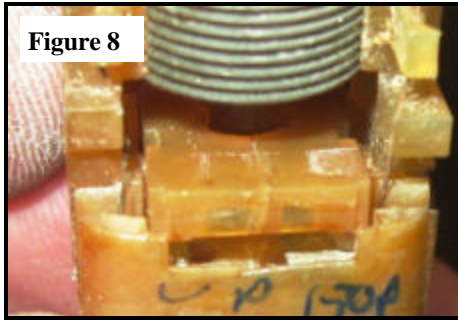

Figure 8
6. Replace the capacitor retainer to prevent the contacts from moving into the case. (Figure 8)